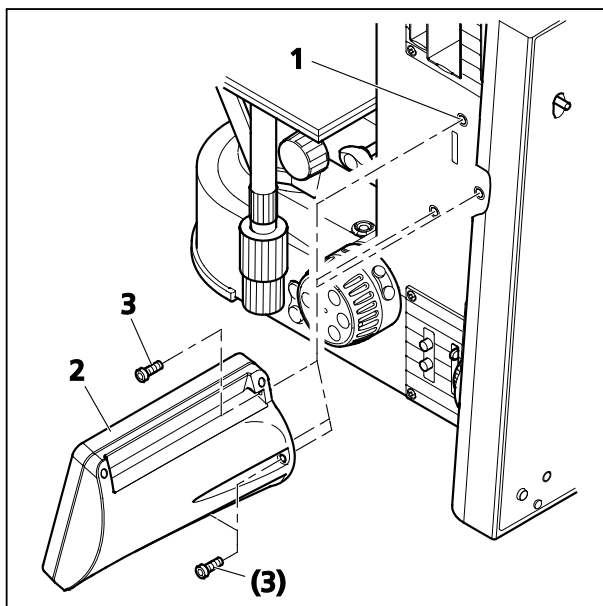

Fig. 38 Mounting the TFT display
- Mount the TFT display (Fig. 38/2) on the right side of the motorized stand (Fig. 38/1) using the three screws (Fig. 38/3).